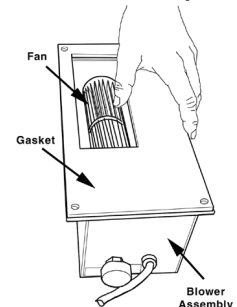
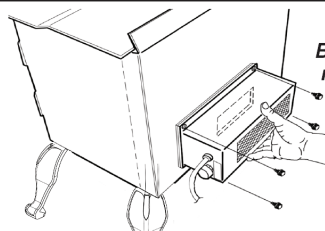

Fig. 4 – Optional Blower Assembly
Fig. 5 – Mount Blower Assembly to rear Heat Deflector
1. Attach blower assembly (fig. 4) to back of rear deflector. (fig.5)